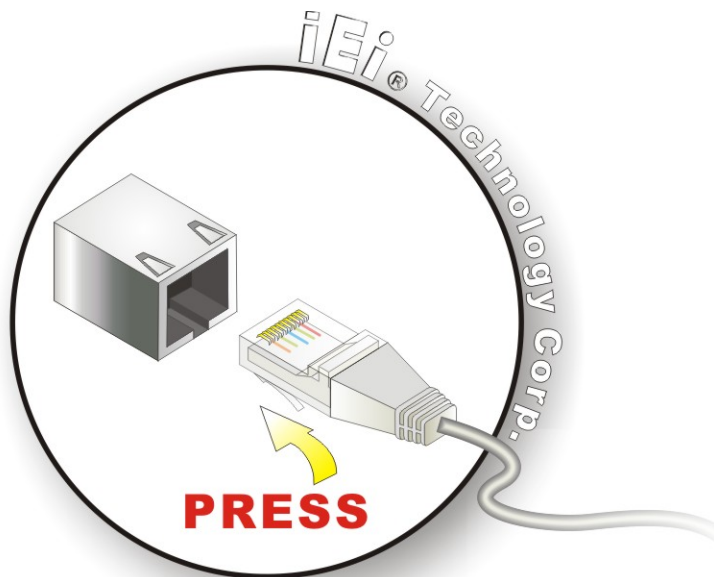

Figure 4-19: LAN Connection
Step 2: **Align the connectors.** Align the RJ-45 connector on the LAN cable with one of the RJ-45 connectors on the NANO-945GSE2. See **Figure 4-19**.